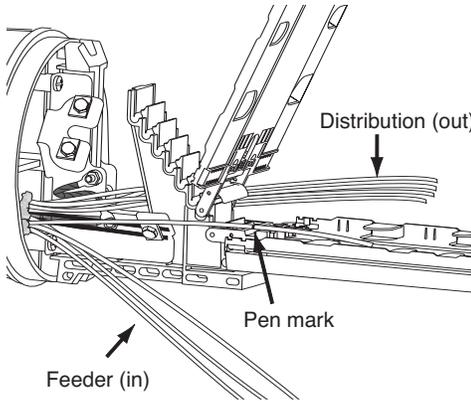

Figure 23
2. Remove the tray cover and route the "feeder" (in) and "distribution" (out) tubes to the appropriate side of the tray (Fig. 23)
3. Place a pen mark on each tube 1/4" beyond the tie-down slots. Use a buffer tube cutter to cut each tube at the mark, and remove the excess tube from each fiber group. (Figure 23)